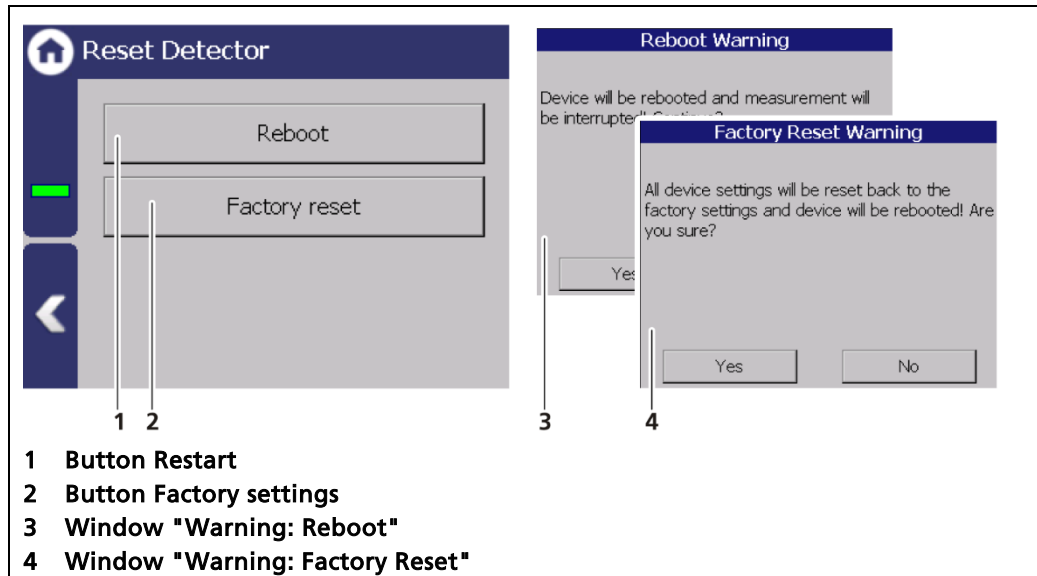

Fig. 79 Reset Detector
1. To restart the detector, click the button <Restart> (Fig. 79, item 1).
- ▶ A window with a warning "Restart" (Fig. 79, item 3) opens.
1. To reset the detector to the factory settings, click the button <Factory settings> (Fig. 79, item 2).
- ▶ A window with the warning Factory settings (Fig. 79, item 4) opens.